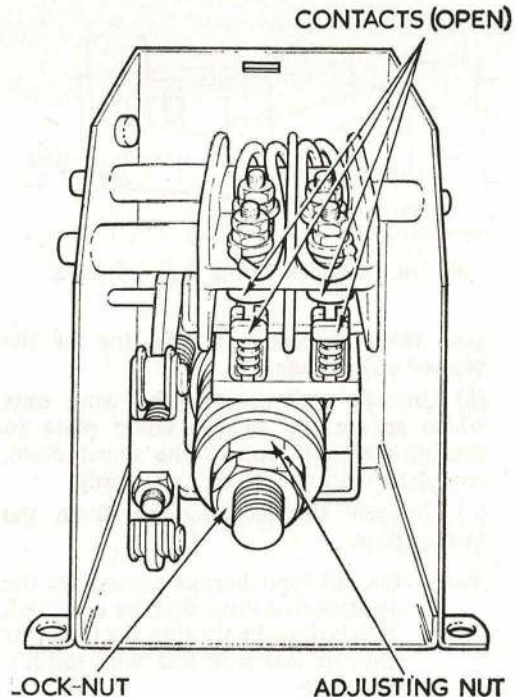

Fig. 16. PRESSURE SWITCH
68. If the switch (Fig. 16) fails to operate when the steam pressure reaches 150 lb per sq. in., or operates before the pressure reaches 140 lb per sq. in., the switch setting will require adjustment. This is done by slackening the locknut and turning the adjusting nut; anti-clockwise decreases, clockwise increases, the loading on the diaphragm spring. After adjusting the setting the locknut must be securely tightened.